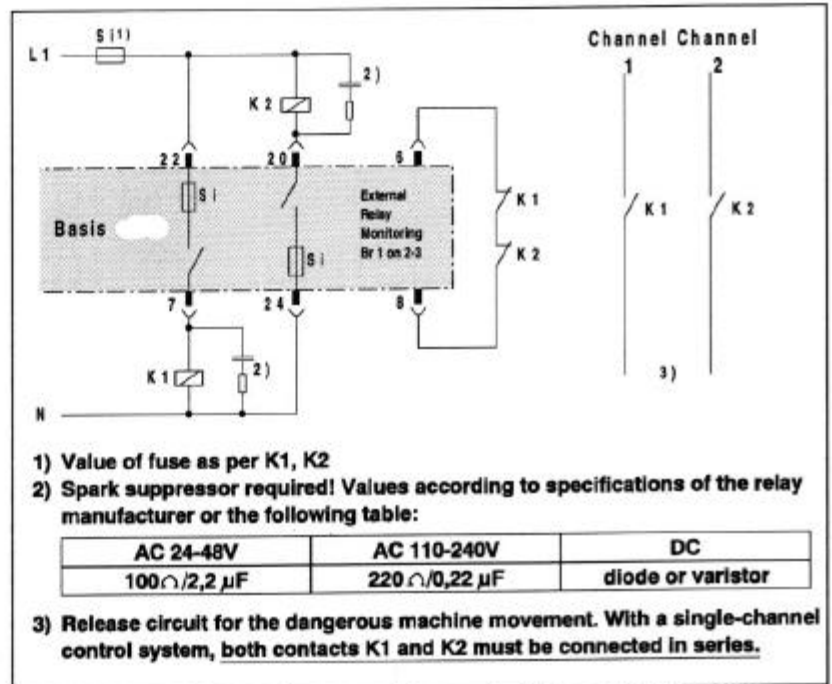

Figure 7-4 Connection example for contact elements with a relay
Caution: To transfer the switching command "Machine Stop", both make contact outputs must be used in this case. The connection example in Figure 7-4 should be used.
At least two contact elements (contactors or relays) must be connected to the switching output in accordance with the connection examples in Figures 7-4 and 7-5 to ensure a reliable connection to the machine controls.
However, if the possibility of the contact elements already picking up at half the maximum operating voltage is ruled out (primarily contactors and relays with DC operation), the circuit in Figure 7-4 can also be used.
- For operation with extern relay monitoring system, Br1 inside BASIS- at 2-3 (Figure 2-4). Assignment of terminals 6 and 8 as per Figures 7-4 and 7-5.
- Switching output, terminals 7, 22, 9, 11, 12, 20 and 24, connection as per Figures 7-4 and 7-5.
- For operation with extern relay monitoring system, Br1 inside BASIS- at 2-3 (Figure 2-4). Assignment of terminals 6 and 8 as per Figures 7-4 and 7-5. For operation without extern relay monitoring system, Br1 inside BASIS- at 1-2.
- Attach connecting cable to machine end in accordance with the details in Chapter 7. Connect spark suppressors in accordance with the relevant connection diagram (Figure 7-4 and 7-5) via short leads.